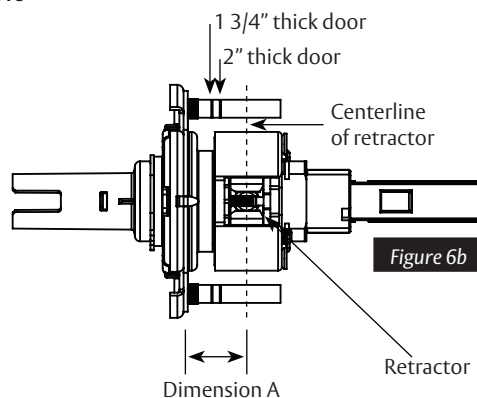

Figure 6b
- Verify correct position from the markings on the through-bolt stud, or by measuring from inside surface of the mounting plate to the centerline of the retractor (See Figure 6b).